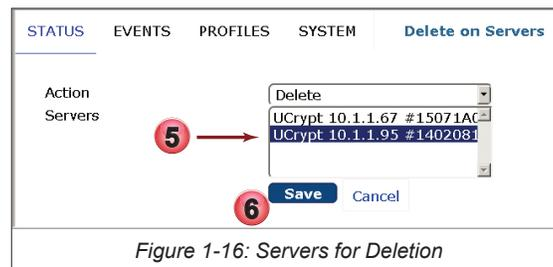

Figure 1-16: Servers for Deletion
5. A confirmation dialog is presented, showing the server IP address and serial number to be deleted, Figure 1-16.